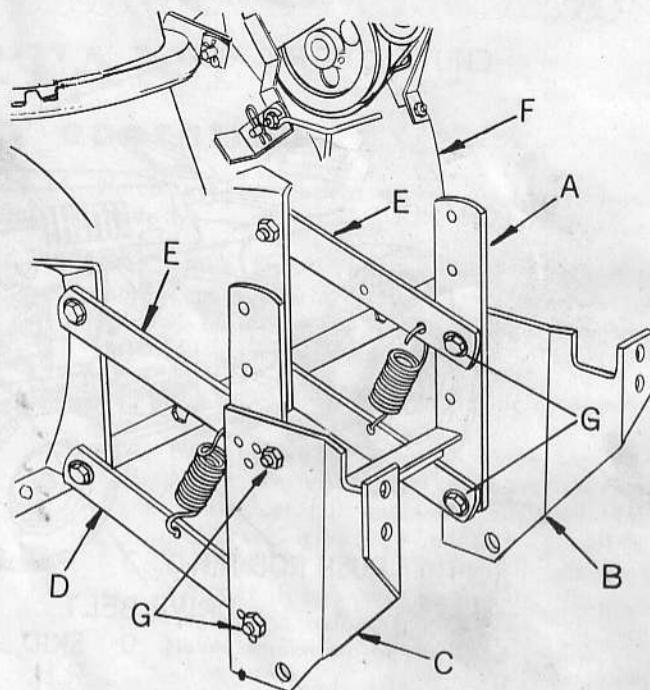

FIG. 3
3. Refer to Figure 3. Assemble upper swing bars (E) to housing assembly (F) as shown. Note: Bolt, washer, and bushing will go into upper swing frame then into housing bracket, and secure with gripco nuts. Bolts, washers, bushings, and nuts were in hole of housing bracket. Tighten nuts securely.
4. Remove nuts (G) from bolts in upper swing bars (E) swing frame-lower (D) and hanger bracket (A) assemble hanger bracket L.H. (C) and hanger bracket R.H. (B) as shown. Normally use top rear holes in hanger brackets as shown and secure with gripco nuts tighten securely. See Fig. 3.
5. Unhook springs from shipping position, and hook springs to rear holes in swing bars (E), and front holes in lower swing frame (D), as shown. See Figure 3.